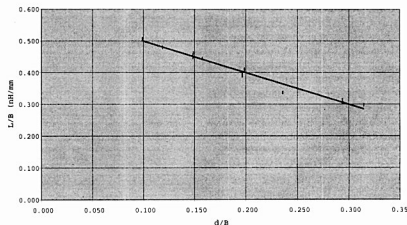

Fig 5. Dependence of Boom Inductance L on B and d
The negative reactances from the 13 different experiments have been converted to inductance (L), and are plotted in Figure 5 in the form L/B against d/B . The inductance is plotted as a positive quantity for convenience, it being understood that it contributes negatively to Z .